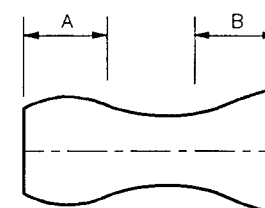

Fig. 5-4-7 Adjustment points
4. If the A section in Fig. 5-4-7 does not meet the specification, adjust the S-guide roller in up or down direction.
5. If the B section in Fig. 5-4-7 does not meet the specification, adjust T-guide roller in up or down direction.